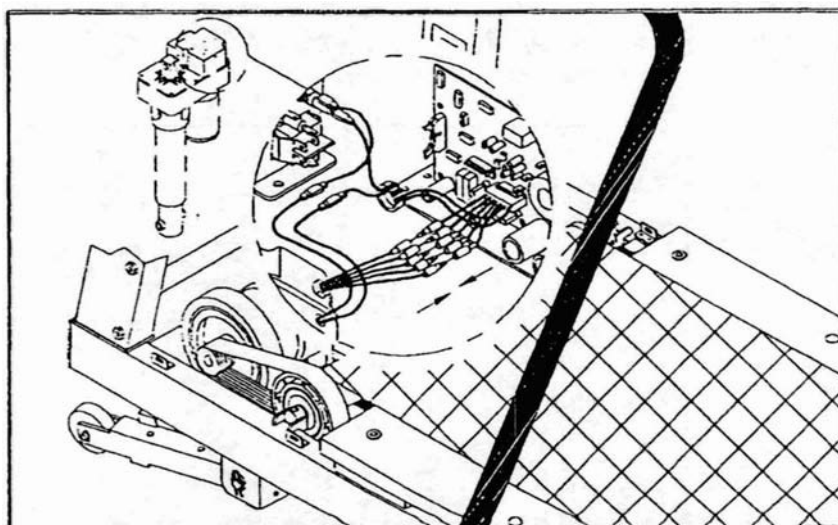

Fig.12
4. Plug all wires into respective terminals according to their colors. (See Fig.12)